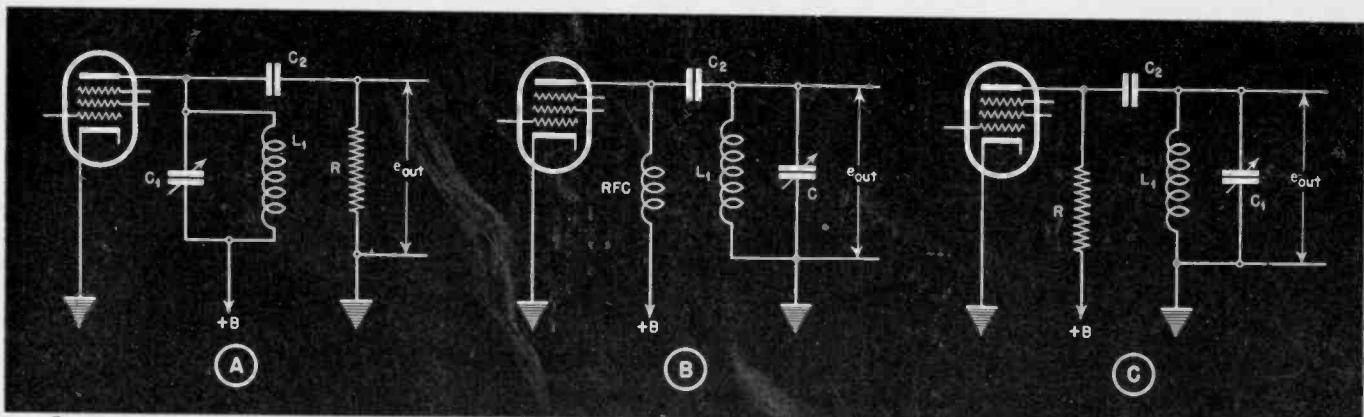

Fig. 4. Single tuned circuit R-F amplifiers
Interstage r-f amplifiers are used between vacuum tubes to amplify and select the desired signal voltage supplied by the input stage from the antenna. In general these amplifiers may be divided into two types: (1) those that are designed to operate from a triode amplifier tube; and (2) those operating from a pentode amplifier tube. These may be further subdivided into two types: fixed tuned and variable tuned. The fixed tuned include i-f amplifiers for the most part, while the latter type includes tuned radio or signal frequency amplifiers. Most receivers used today employ pentode tubes in the r-f circuits. Fig. 4 illustrates Single Tuned Circuit r-f amplifiers.